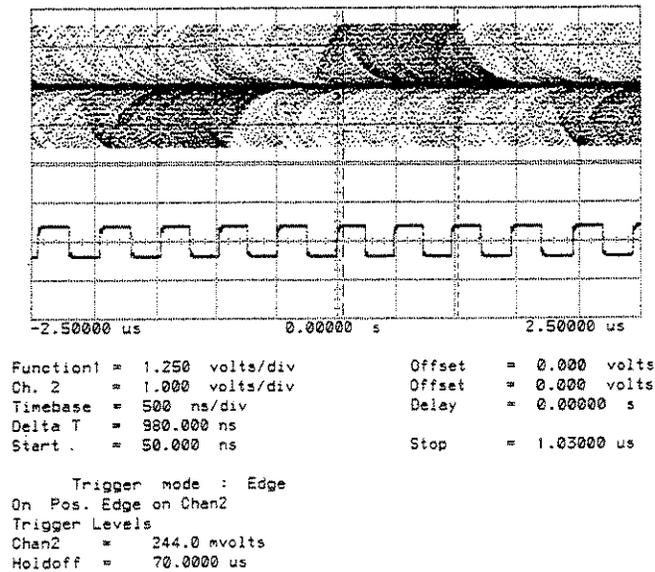

Figure 8-23 10UI p-p Jitter
26. Continue increasing the Signal Source output level until the jitter is seen to increase beyond the overlap point as shown in Figure 8-23 below. This is equivalent to 10 UI p-p jitter on the TX DATA OUTPUT. (Disregard the reading on HP 3784A Page 4 [JITTER TRANSFER] for Tx Jitter.